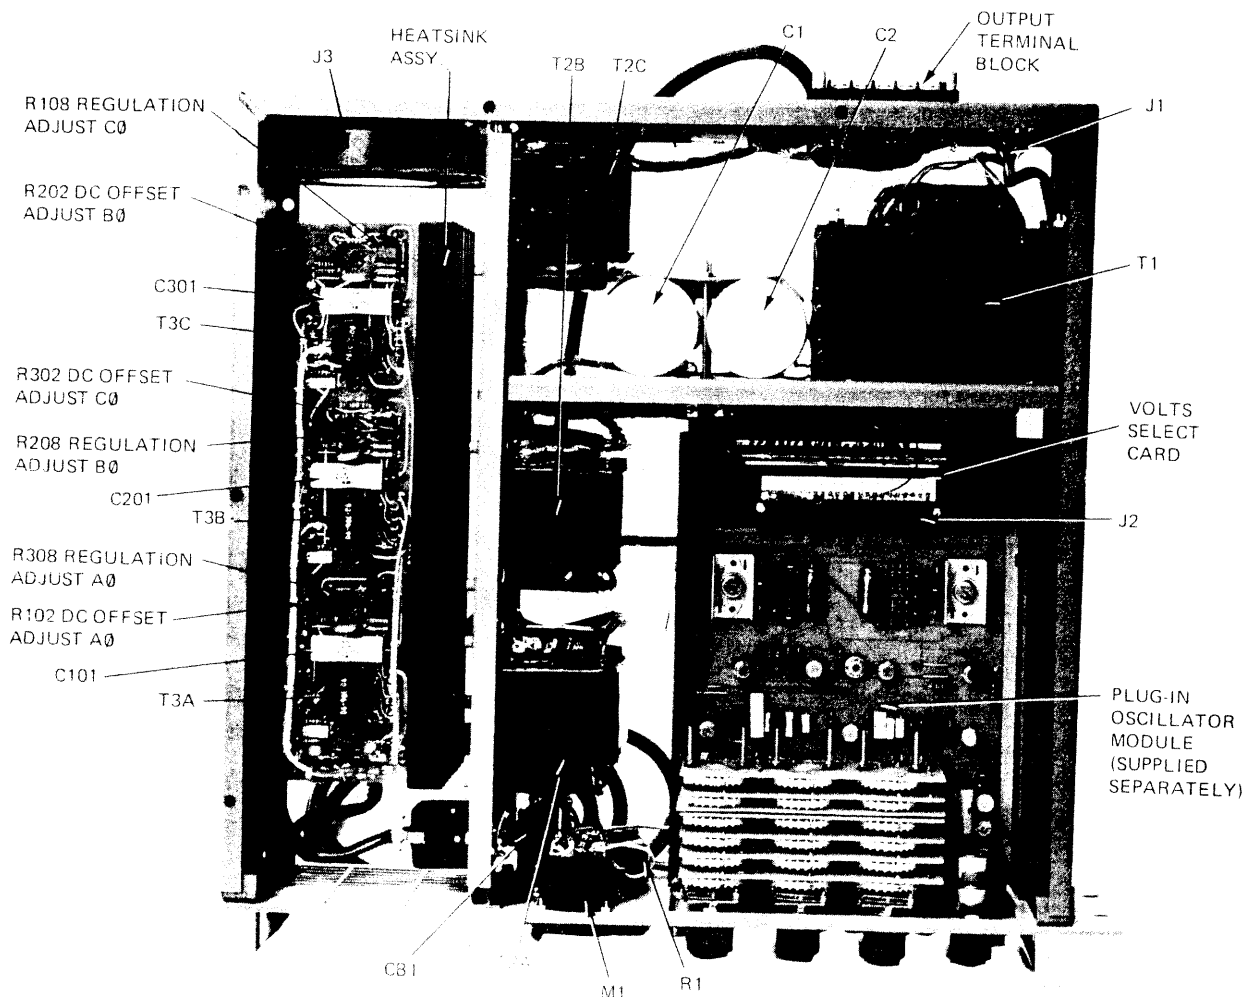

FIGURE 5-1. COMPONENT LAYOUT
- 4-9. The output configuration card is located inside the Model 153A, (See Figure 5-1), and is used to select any one of four output voltage configurations. These four outputs are described in paragraph 1-4. To select a particular output voltage configuration unplug and rotate the card to the configuration desired. The configurations are identified on the face of the selector card.
3. Using multimeter, measure +35VDC and -35VDC outputs of DC power circuit. The +35VDC is the red lead at C1 and the -35VDC is the green lead at C2. (See Figure 5-1.) Observe that the plus (+) and minus (-) 35 VDC busses are even readings of 37VDC nominal (no load) and are within 5% (2 to 3 volts) of each other. If not, discontinue the checkout and troubleshoot the unit to correct the problem. (See Paragraph 5-22.)